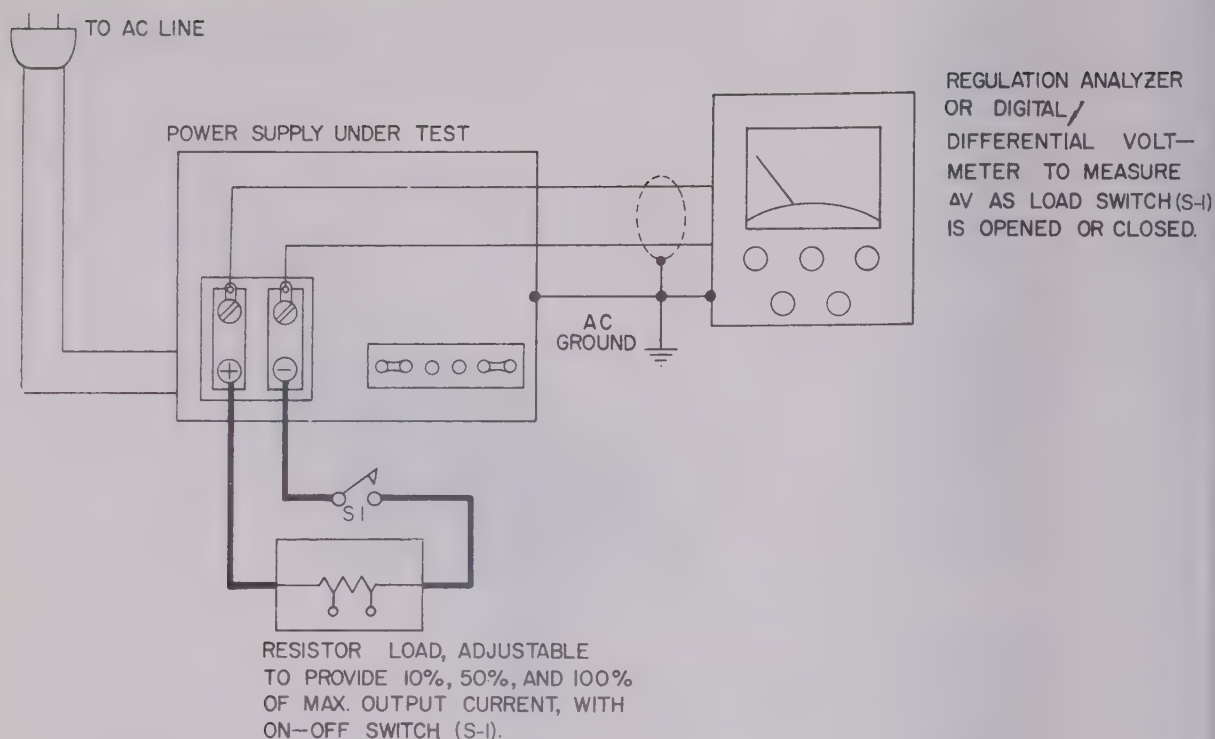

FIG. 5-3 MEASURING LOAD REGULATION (VOLTAGE MODE) WITHOUT REMOTE ERROR SENSING
b) The proper location of the instrument leads when measuring regulation is of the utmost importance. Improperly placed leads may measure voltage drop due to contact resistance and load current flow and thus lead to incorrect results. This can be avoided by the four terminal network technique. Figs 5-3 to 5-6 show clearly how this technique is employed in regulation measurements. The principle is very simple but important: Do not measure voltage drops due to load current.